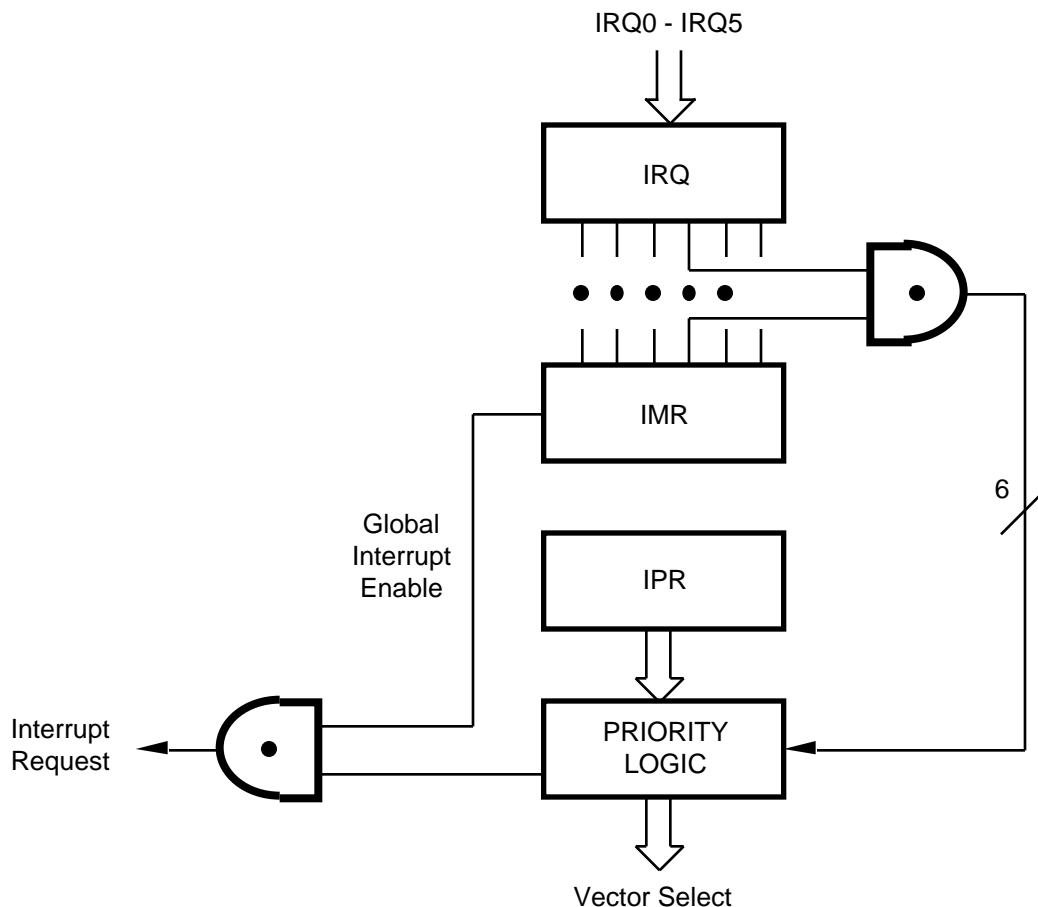

Figure 26. Interrupt Block Diagram
**Interrupts.** The Z86C61/62/96 has six different interrupts from eight different sources. The interrupts are maskable and prioritized. The eight sources are divided as follows: four sources are claimed by Port 3 lines P33-P30, one in Serial Out, one is Serial In, and two in the counter/timers (Figure 26). The Interrupt Mask Register globally or individually enables or disables the six interrupt requests. When more than one interrupt is pending, priorities are resolved by a programmable priority encoder that is controlled by the Interrupt Priority register. All Z86C61/62/96 interrupts are vectored through locations in the program memory. When an interrupt machine cycle is activated, an interrupt request is granted. Thus, this disables all of the subsequent interrupts, saves the Program Counter and Status Flags, and then branches to the program memory vector location reserved for that interrupt. This memory location and the next byte contain the 16-bit address of the interrupt service routine for that particular interrupt request.